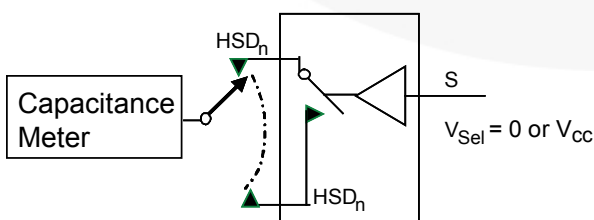
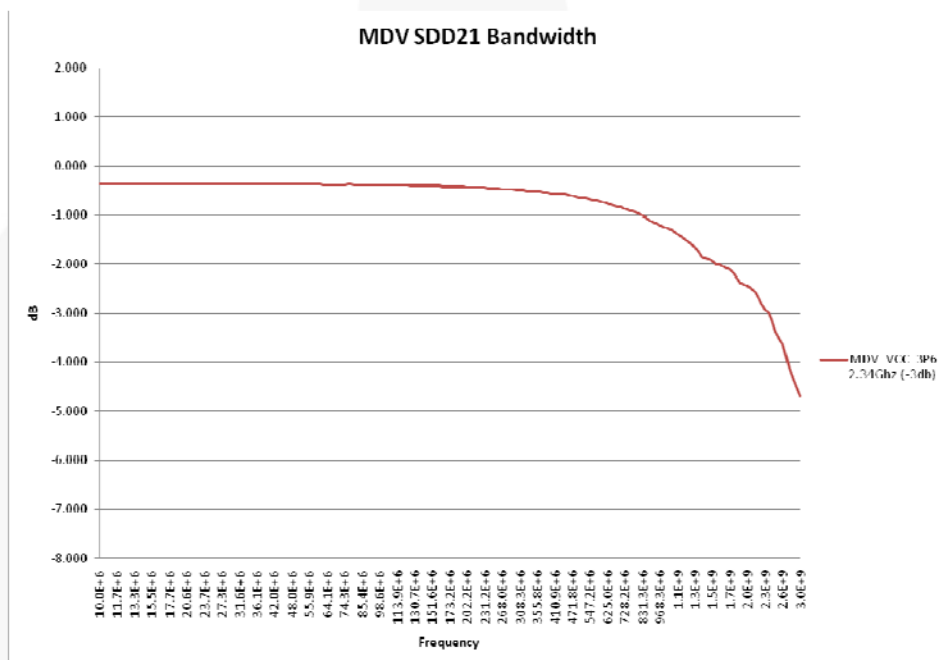
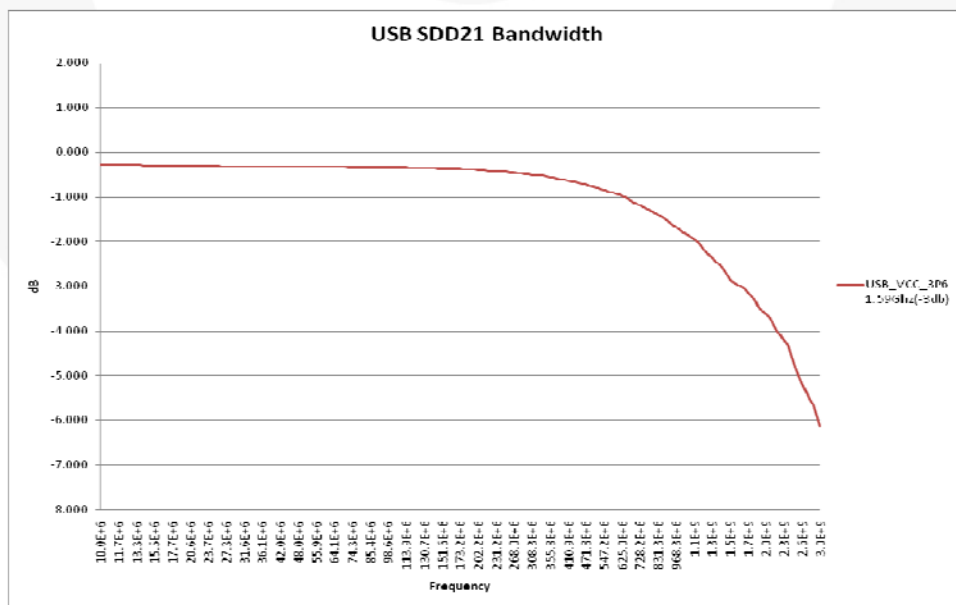

**Figure 11. Insertion Loss**
Figure 16. MDV Path SDD21 Insertion Loss Curve
Figure 17. USB Path SDD21 Insertion Loss Curve
| BW             | Differential -3 db Bandwidth (10)   | $V_{IN}=1\ \text{V}_{pk-pk}$ , MDV Path, $R_L=50\ \Omega$ , $C_L=0\ \text{pF}$ , Figure 11, Figure 16                  | 2.7 to 3.6   |                                                | 2.34 |      | GHz  |
|                |                                                | $V_{IN}=400\ \text{mV}_{pk-pk}$ , USB Path, $R_L=50\ \Omega$ , $C_L=0\ \text{pF}$ , Figure 11, Figure 17               |              |                                                | 1.59 |      |      |
|                |                                                | ID Path, $R_L=50\ \Omega$ , $C_L=0\ \text{pF}$ , Figure 11                                                             |              |                                                | 100  |      | MHz  |
Bandwidth is measured using the S-parameter SDD21 methodology. Figure 16 shows the bandwidth (GHz) for the MDV path and Figure 17 the bandwidth curve for the USB path.